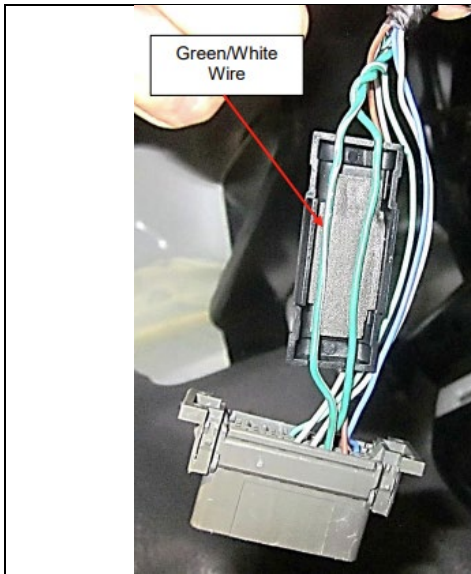

Figure 77
83. Transfer the CAN low (Solid color) wires and CAN high (Striped color) wires from the old CAN reader cap into the new CAN reader cap. (See Figures 77 and 78.)